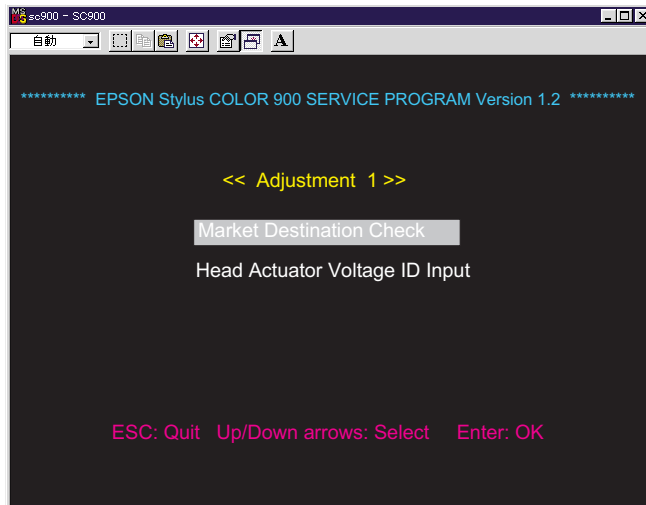

**Figure 5-4. Main Adjustment Menu Screen**
11. The main adjustment screen shown in Figure 5-4 appears.
2. Select "Adjustment 1" in the main adjustment screen (Figure 5-4).